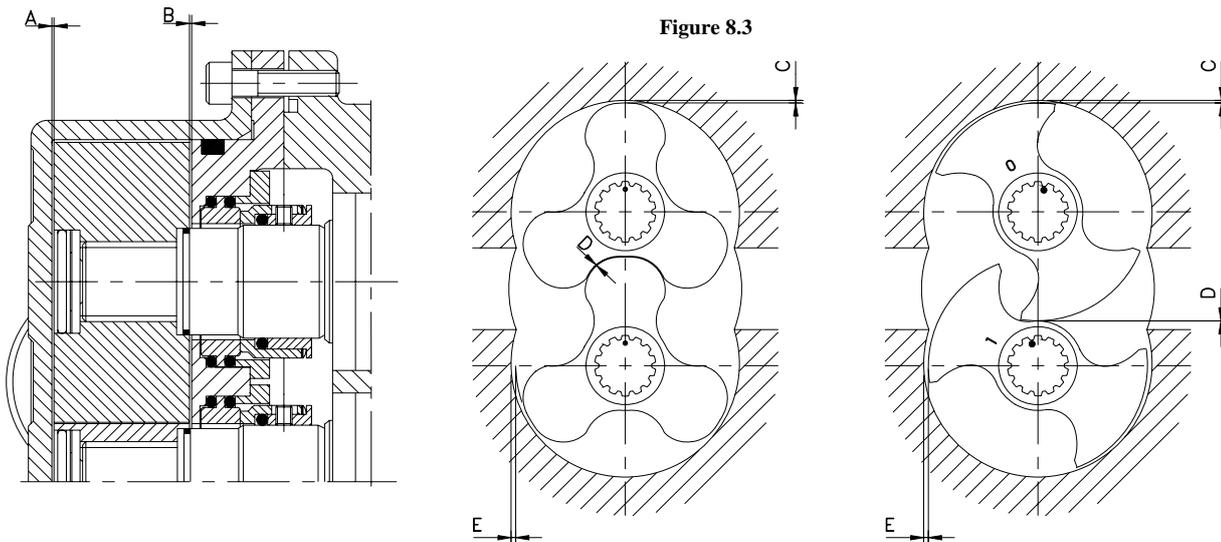

Figure 8.4
- Make sure that the clearance both behind and between the lobes is similar to that shown in table 8.2, figure 8.4.